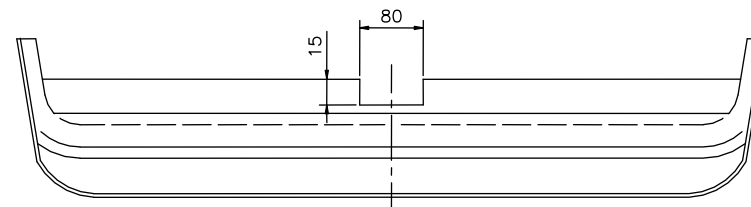

Fig. 2 Bumper cut out
2. In bottom part of the bumper cut out fragment according to figure 2.
3. On protruding pins in rear wall of car body put left handle (pos. 7) on the left side and right handle (pos. 6) on the right side and fix using original nuts M8 from metal reinforcement disassembly and per one bolt M10x35mm (pos. 12) from accessories (fix loosely).
4. With in this way prepared elements fix side brackets (pos. 4 and 5) and main bar of the towing hitch pos. 1 using bolts M12x40mm (pos. 11) – see drawing.
6. Inside the trunk put fish-plates (pos. 8 and 9) in this way, so holes of the fish-plates agree with holes drilled before and fix loosely using bolts M10x35mm (pos. 12).
7. Through holes pos. B of fish-plates drill straight through holes $\varnothing 1$ mm and next fix with rectangular washer (pos. 10) by bolts M10x35mm (pos. 12).
9. Fix body of the automat and place tow-ball according to supplied instruction. Note! Remember to place socket plate (pos. 3) as shown on the drawing 1.